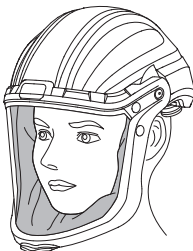

fig.1a
Step 1 : Put the face shield on and adjust the face seal, make sure the face seal fully sealed around the face (See fig.1a).